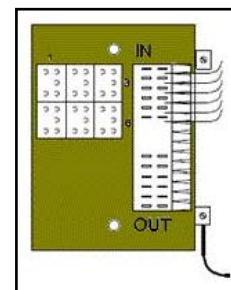

Fig. 4
1.6.1 Punch incoming copper pairs onto the "Out" side of the available pins of the 6-pair solid state protector block. See Figure 4. The "Out" side of the protector block always "points" to the world outside of the HVI, be it in the substation (Control House) or in the network (PSTN). The pre-installed protector block is pre-connected to the ground bar installed on the backboard. Refer to Section 1.2 for notes on grounding.